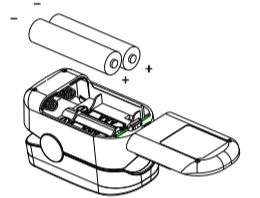

Figure 3. Battery Installation
- Push the battery cover horizontally along the arrow shown as figure 3.